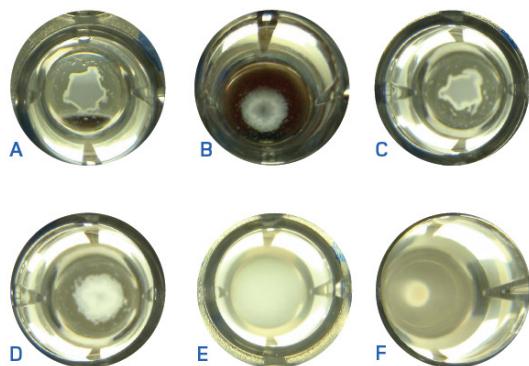

Figure 1
1. It is important to use a broth which does not agglutinate with the antisera alone giving false positive results. It is recommended to test the broth before use since different broths agglutinate differently (see figure 1).
5. A positive reaction is read as a “grey carpet”, covering the bottom of the well. When the reaction is negative the bacterial suspension is a small white spot centered at the bottom in the well (see figure 1).